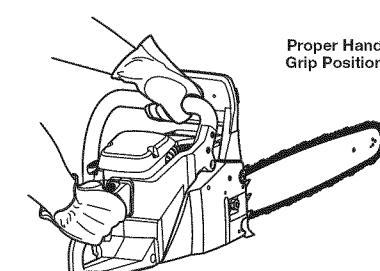

Fig. 11
- Hold the saw firmly with both hands. Always keep the left hand on the front handle and the right hand on the rear handle so that the operator's body is to the left of the chain line (Fig. 11). Use these hand placements even if the operator is left-handed.